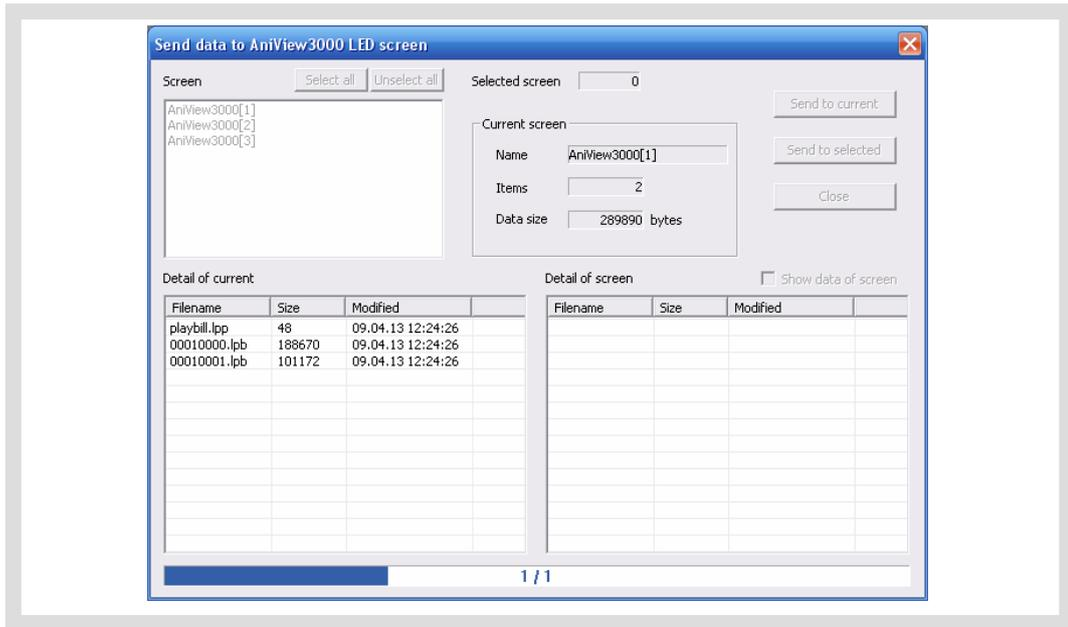

Figure25 Dialog box of sending data
- 2) Click “Play” – “Send program data...” in main menu; or click  button in tool bar, and the box "Send data to screen" pops up, as shown in Figure25. The choices are: